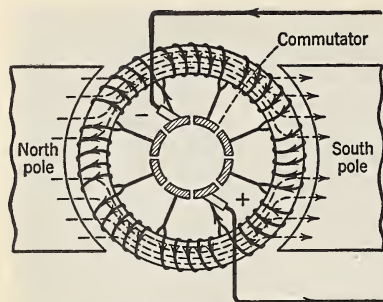

FIG. 698. Ring-wound armature.
2. *Ring-wound armature.* In the *ring-wound armature* the insulated wire is wound in the form of a spiral on an iron ring or shell, as shown in Fig. 698. The wires on the inside of the ring and also those at the ends *do not cut* lines of force. The lines of force follow along the iron ring from one magnetic pole to the other, since the iron is more permeable than the air-gap in the center of the ring. Note the dotted lines of the figure. With the drum-wound armature all the wires except the segments at the ends cut lines of force.